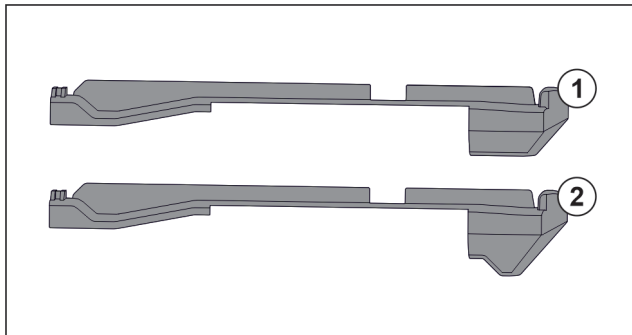

Fig. 147 Comparing attachments
There are two different attachments in the appliance. The attachment above the lowest drawer Fig. 147 (2) has a three-cornered edge. All other attachments Fig. 147 (1) have a straight edge.
- ▶ Fit attachment Fig. 147 (2) with the three-cornered edge above the lowest drawer.
- ▶ Fit attachment Fig. 147 (1) with straight edge in all other positions.